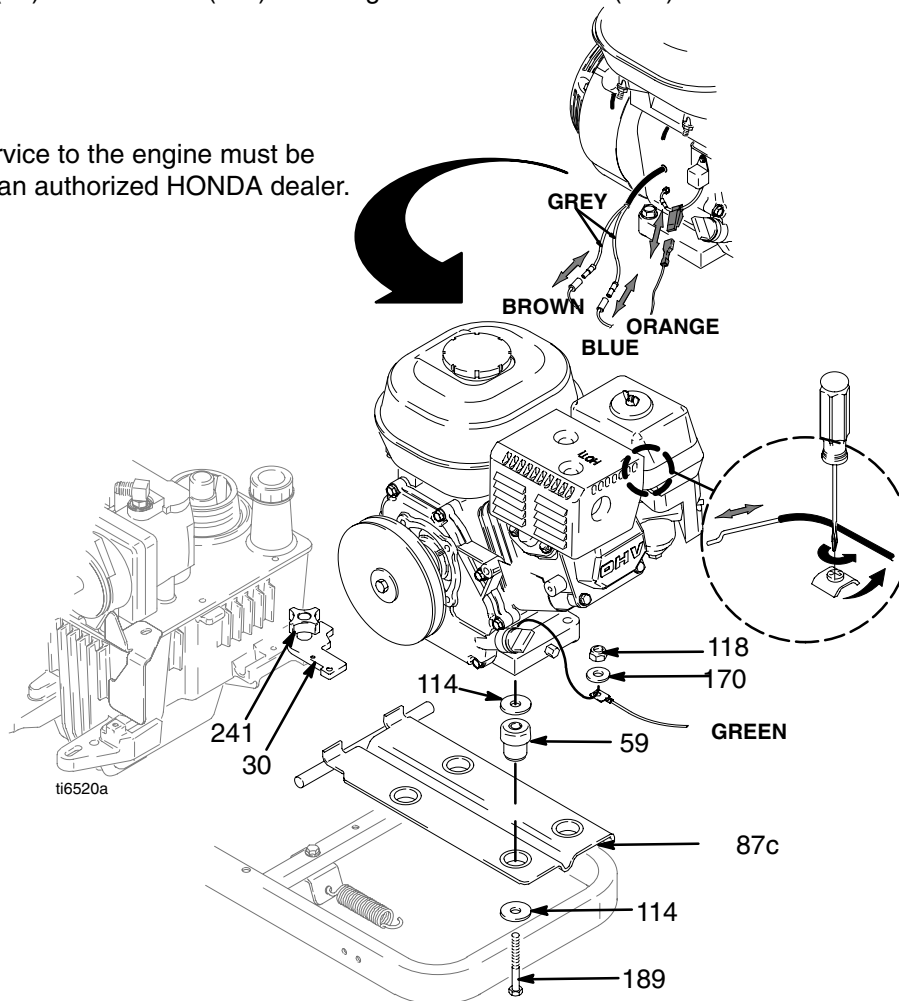

Fig. 6
4. Loosen hand nut (241). Swing bracket (30) out.
5. Fig. 6. Disconnect blue, brown and orange leads from engine (185).
7. Remove four screws (189), washers (114), washers (170) and nuts (118) and remove rocker plate, dampeners (59) and washers (114) from engine.